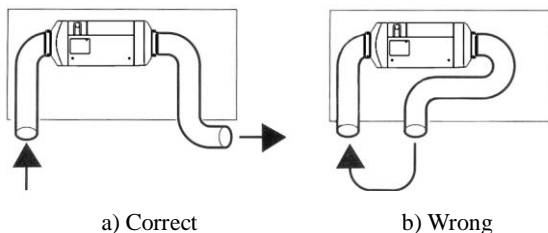

Fig. 12
4.3.6 For heater working in internal circulation, measures shall be taken to avoid re-entering of the supplied hot air into the air inlet port (as shown in Fig. 12). If no air inlet pipe is attached in this mode, an air inlet hood with grids (Fig. 4-6) must